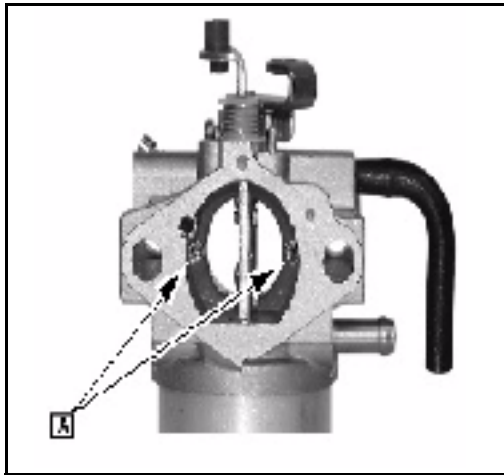

Fig. 41
**NOTE:** Engines with type numbers *not ending in A1 or E1* have removable idle and main air jets. Install jets ([A] Fig. 41) with carburetor jet screwdriver (#19280).